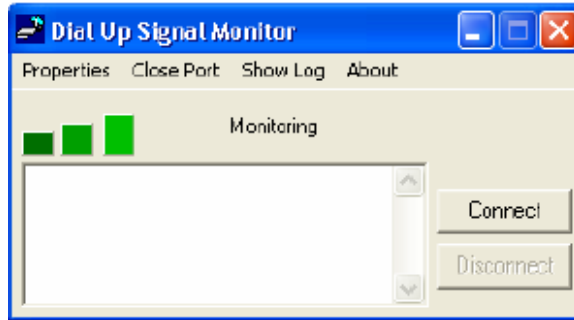
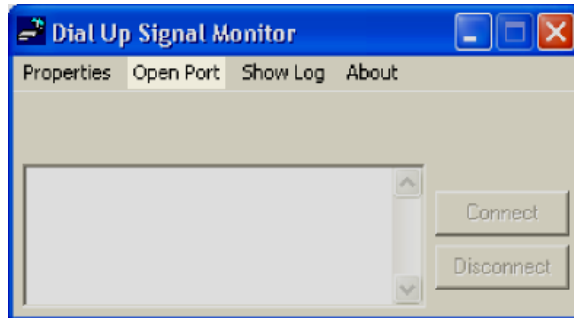

Figure 22. Dial Up Signal Monitor – Monitor Mode
Figure 23. Dial Up Signal Monitor – Open Port Selection Hi-lighted
- (1) Ensure AOS and DUSM applications have been launched and are operating (if required, refer to section 3 paragraph e(1) and section 3 paragraph i(1) of this document for launch instructions)
- (2) Open DUSM COM Port.
- (a) Verify the DUSM COM Port has been opened. DUSM will be in Monitor Mode if COM Port is open (see Figure 22).
- 1) If the COM Port is not OPEN select Open Port from the Options menu (see Figure 23).
- (1) Close the DUSM COM Port by selecting CLOSE PORT on the DUSM Options Menu (see Figure 22).
- (2) Close all open software applications.
- (2) Disconnect the Iridium® Modem power supply from the power outlet.
- (3) Wait approximately 10 seconds.
- (4) Reconnect the Iridium® Modem power supply to the power outlet.
- (5) Open the DUSM COM Port by selecting the OPEN PORT on the DUSM Options Menu (see Figure 23).